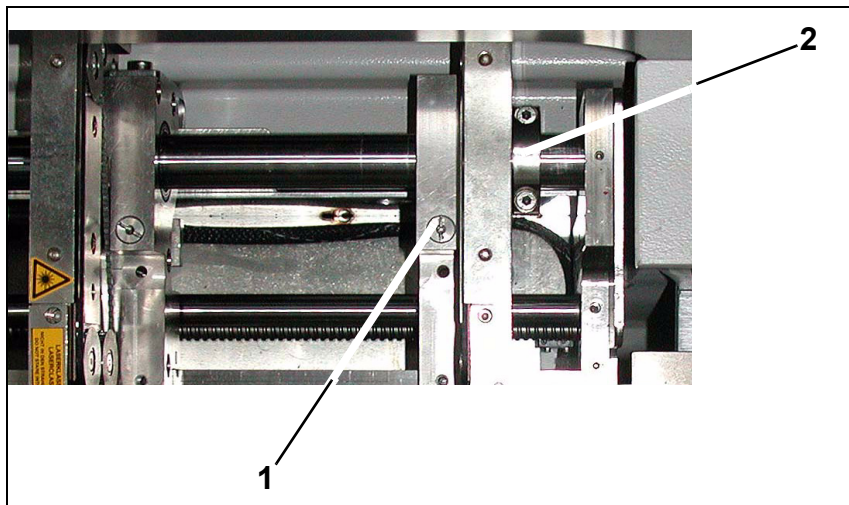

Fig. 6.12.19 Modular transport details
- Undo the fastening screw(1) (s. Fig. 6.12.19) on the side flange.
- The fastening screw also has a (1) hexagon socket-head grub screw, which you will need to loosen slightly - **do not** unscrew it fully!
- Remove the fastening screw (1). Make sure you do not lose the spring inside.
- Push the fixed transport side as far as to the stop ring (2) (s. Fig. 6.12.19).